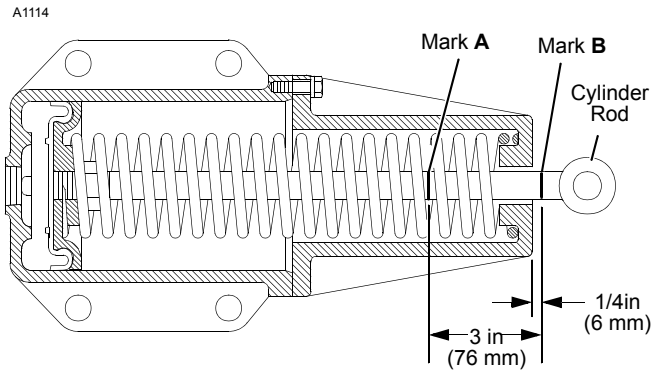

FIGURE 5-18
See Figure 5-18 for the following procedure.
3. Mark cylinder rod 1/4 in (6 mm) from end of cylinder with file or hacksaw blade (see Mark B, Figure 5-18).
4. Apply air to fully extend cylinder rod. Make second mark on cylinder rod 3 in (76 mm) down from Mark B (see Mark A, Figure 5-18).